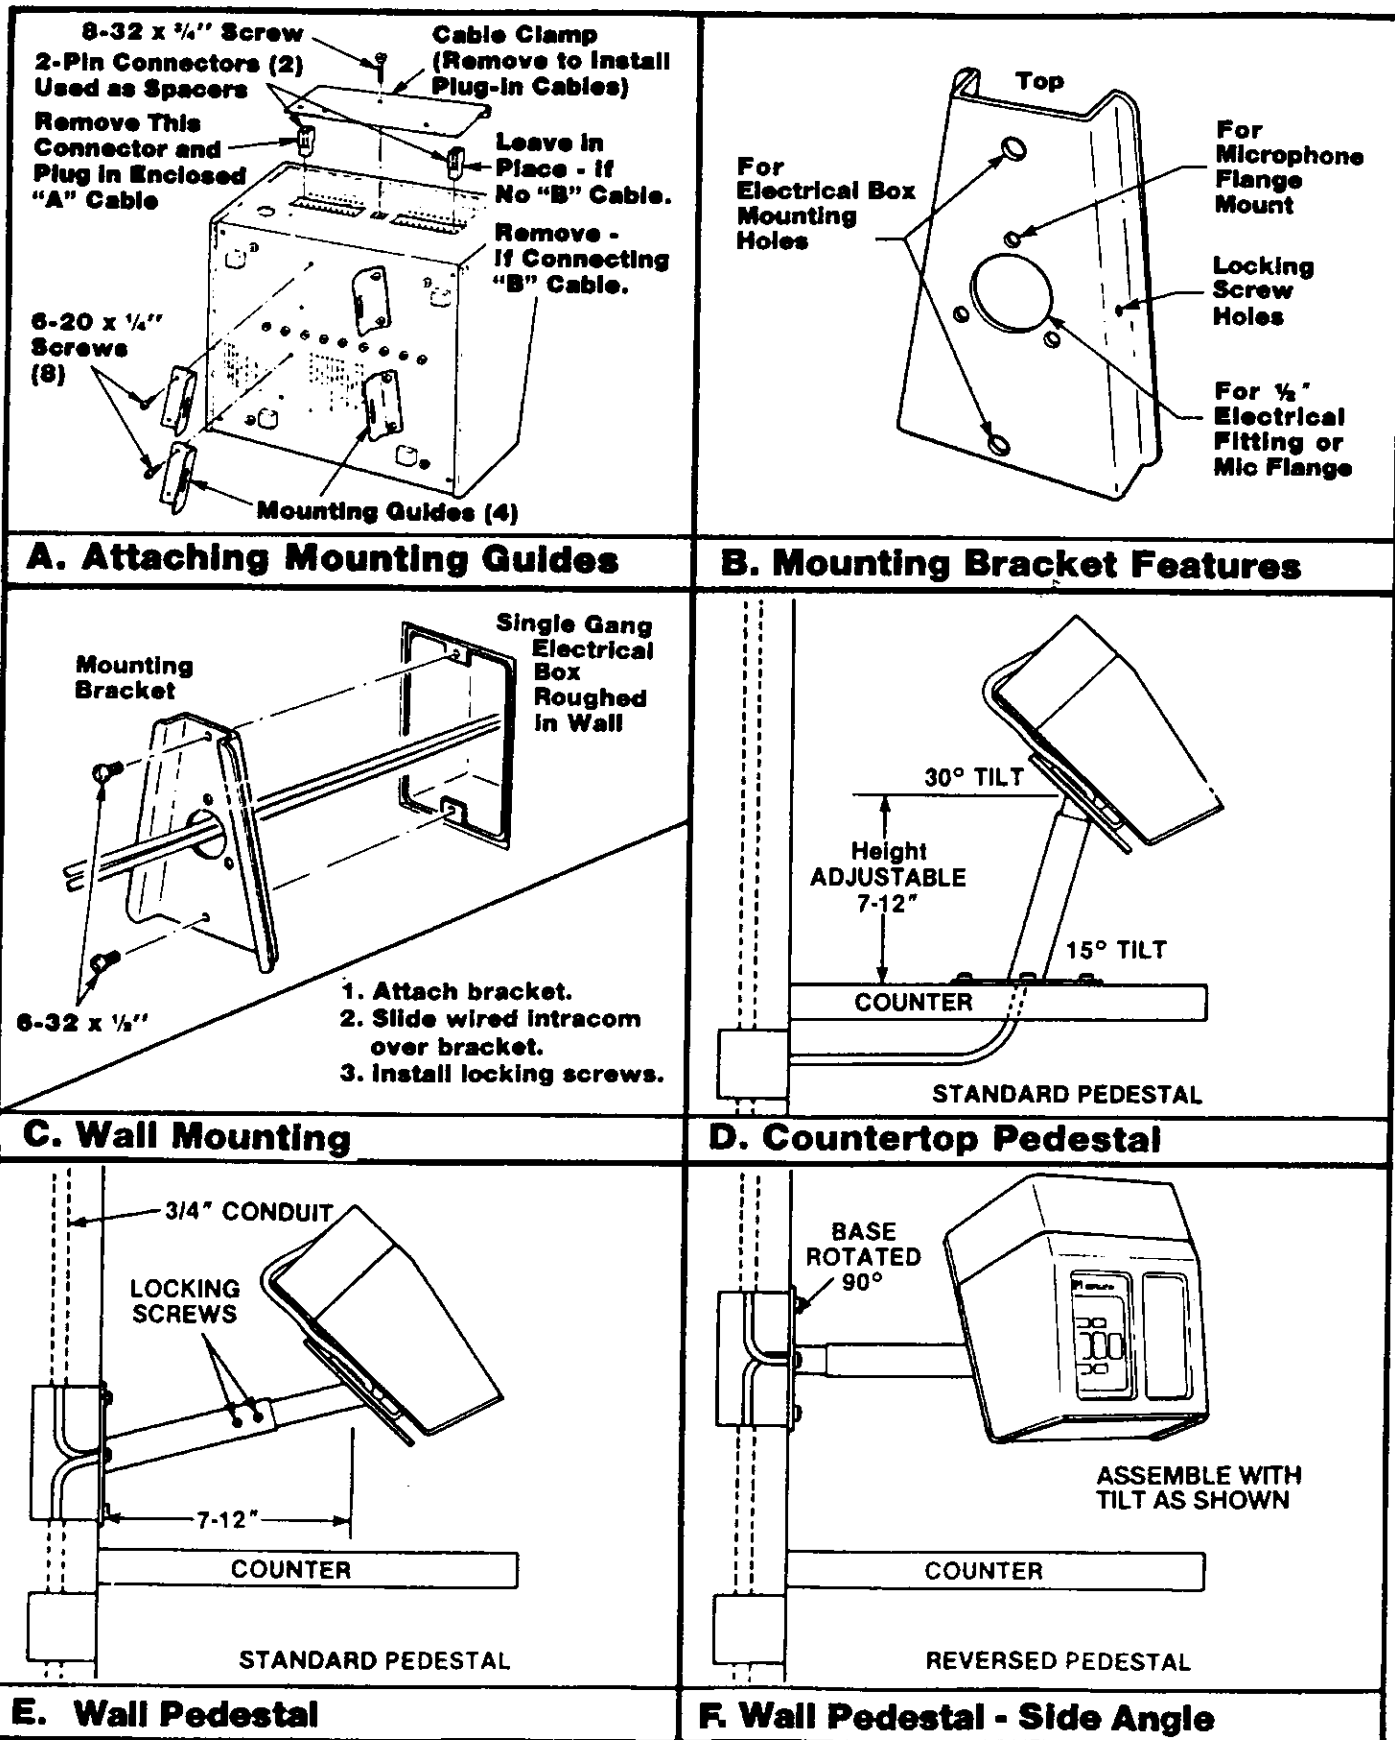

Figure 3. Intracom Mounting Methods
The D-20 has four rubber feet for countertop placement, but permanent surface attachment prevents movement which could break connections. The mounting guides and an "A" mounting bracket enclosed with each unit provide various wall-mounting methods. Using the optional pedestal-mount as shown in figures 3-D, 3-E and 3-F places the D-20 closer to the operator for better voice clarity, easier control access and reduced listening volume.
- b. Attach the four mounting guides using eight of the screws provided (figure 3-A).
- j. Instruct the operator and present the operating instructions (item 10).
4. FINAL D-20 MOUNTING - Lock the D-20 to the "A" bracket by installing the remaining two small screws at each side of the "A" bracket per figure 3-B. Either install the cable clamp or rear wire cover as follows:
- Cable Clamp (Item 7) - Attach to D-20 with screw (item 8) per figure 3-A.
- Optional Rear Wire Cover - Install the optional rear wire cover (78-8028-9062-0) instead of the cable clamp (item 7) per included instructions.